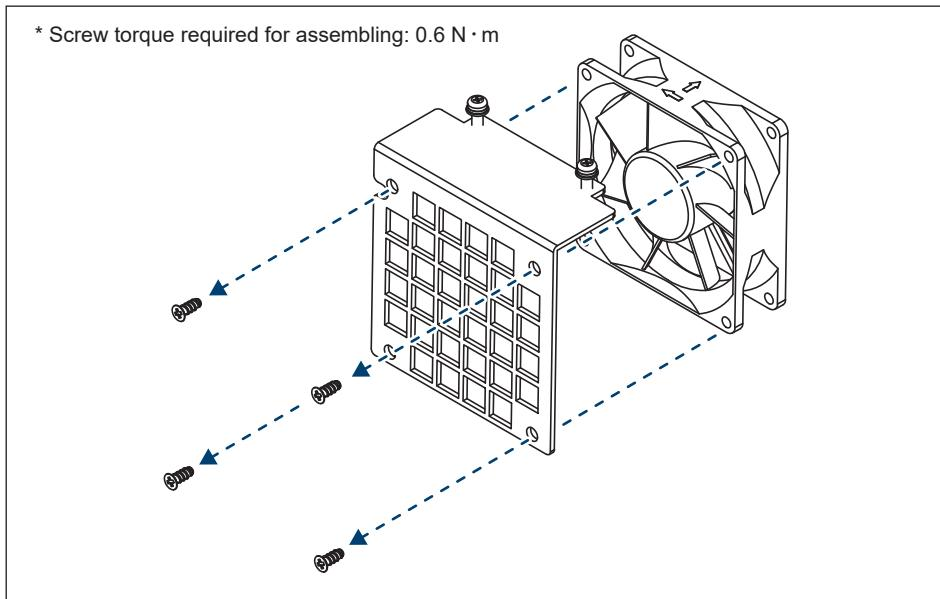

Figure 5-17: Replace with a new fan
- (4) Clean assembly or replace with a new fan. (shown in **Figure 5-17**)
- (5) Reassemble using a tightening torque of 0.8 N·m.